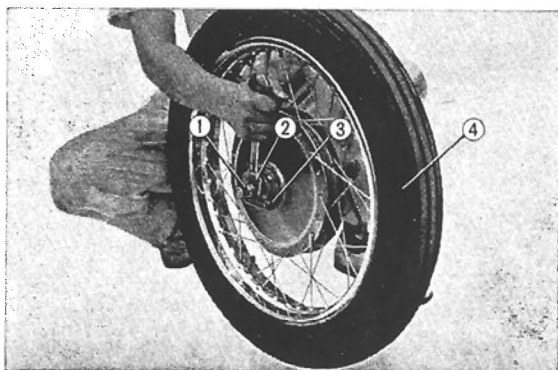

Fig. 4.75 Removing the front wheel axle
5. Remove the front wheel axle nut and pull out the axle. The speedometer, gear box and brake panel can be separated from the front wheel. (Fig. 4.75)